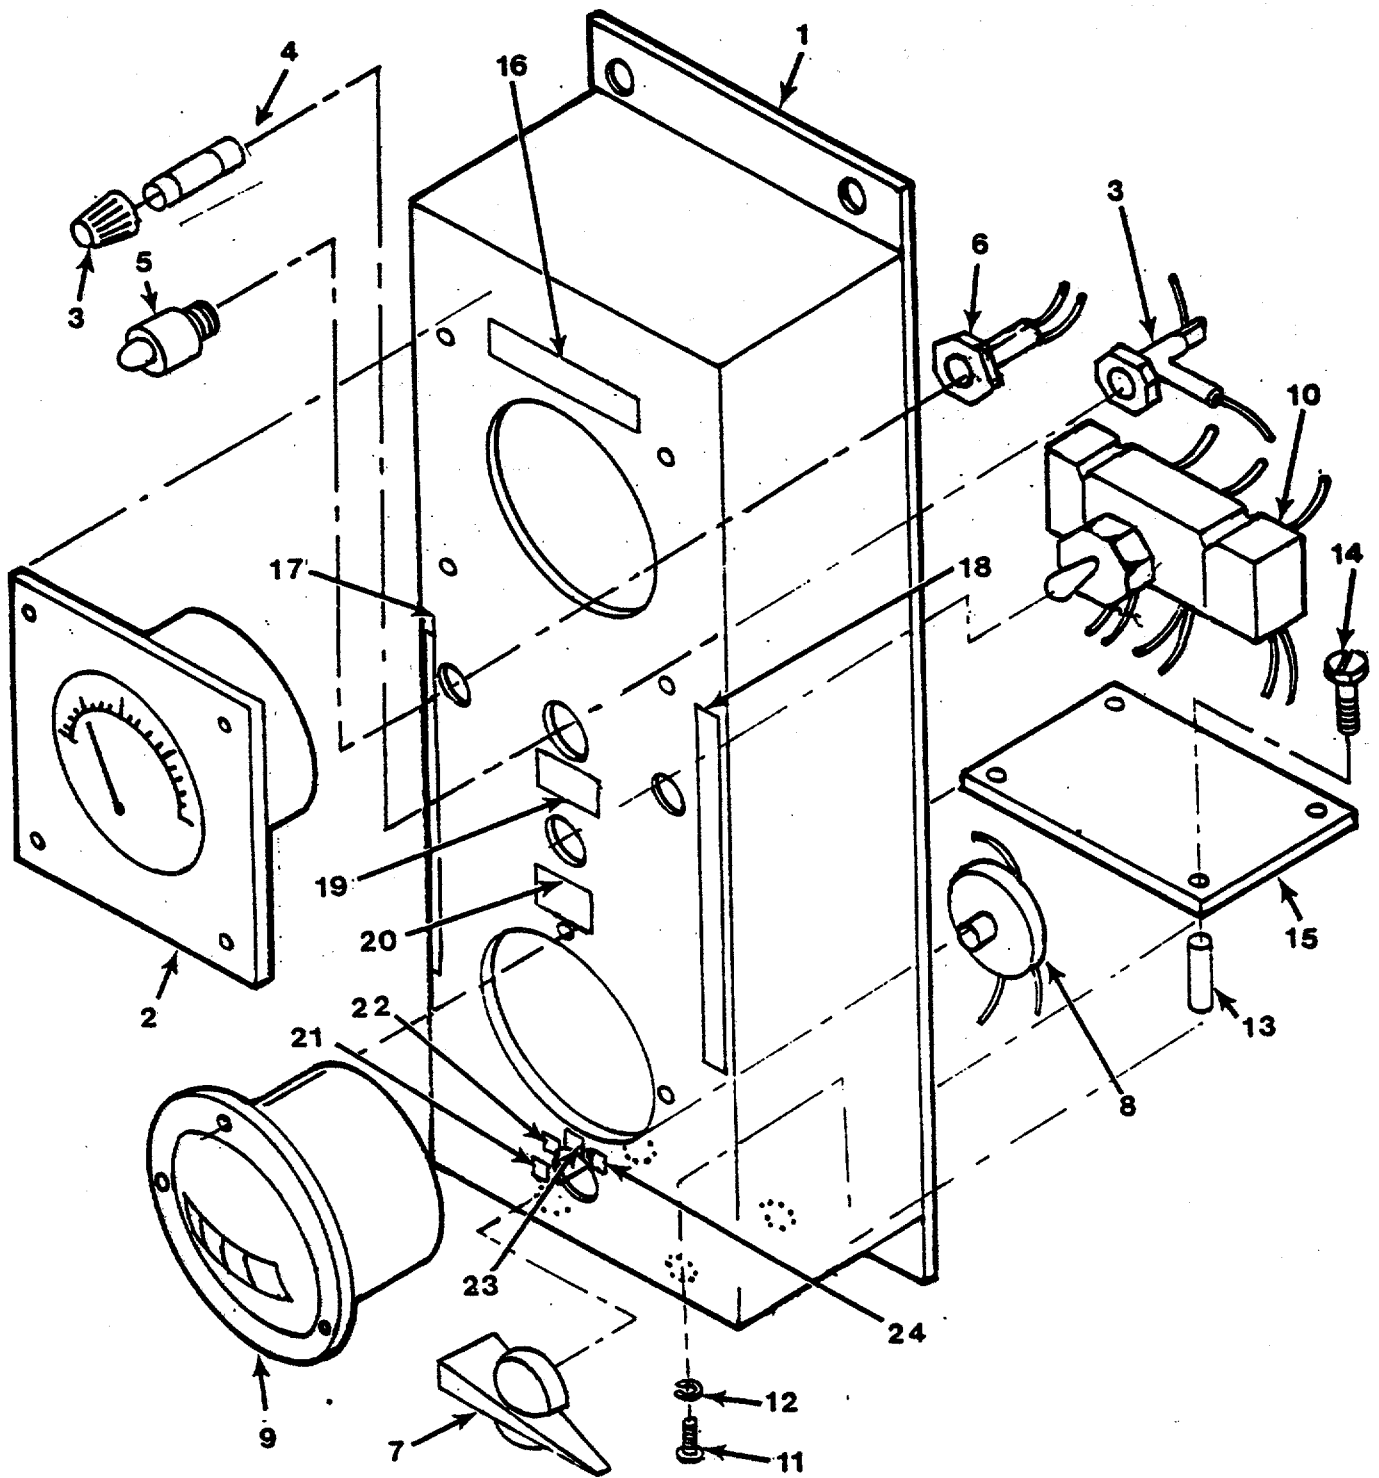

Figure 30. Phase Meter
| (1) ITEM NO | (2) SMR CODE | (3) CAGEC | (4) PART NUMBER | (5) DESCRIPTION AND USABLE ON CODES(UOC) GROUP 15 PHASE MONITOR METER FIG. 30 PHASE METER | (6) QTY |